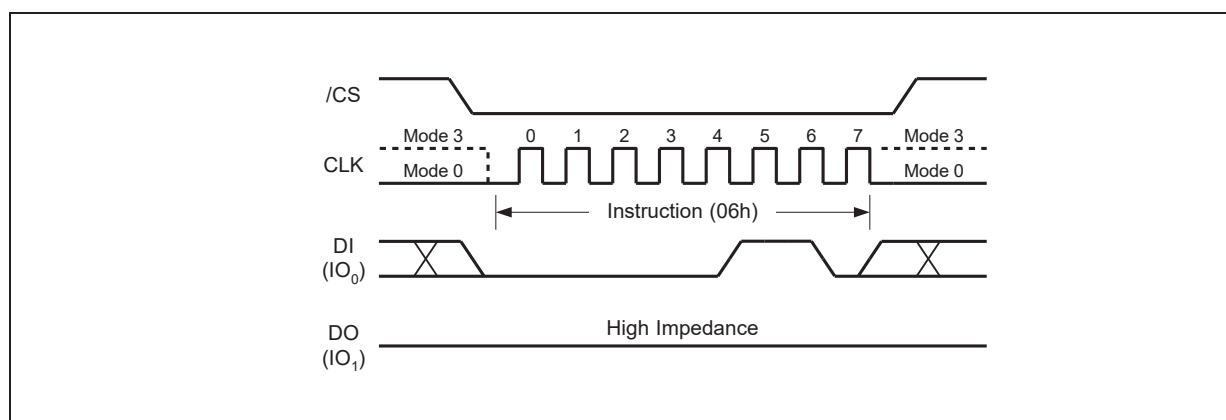

Figure 5. Write Enable Instruction for SPI Mode
Instructions vary in length from a single byte to several bytes and may be followed by address bytes, data bytes, dummy bytes (don't care), and in some cases, a combination. Instructions are completed with the rising edge of edge /CS. Clock relative timing diagrams for each instruction are included in Figures 5 through 57. All read instructions can be completed after any clocked bit. However, all instructions that Write, Program or Erase must complete on a byte boundary (/CS driven high after a full 8-bits have been clocked) otherwise the instruction will be ignored. This feature further protects the device from inadvertent writes. Additionally, while the memory is being programmed or erased, or when the Status Register is being written, all instructions except for Read Status Register will be ignored until the program or erase cycle has completed.
The Write Enable instruction (Figure 5) sets the Write Enable Latch (WEL) bit in the Status Register to a 1. The WEL bit must be set prior to every Page Program, Quad Page Program, Sector Erase, Block Erase, Chip Erase, Write Status Register and Erase/Program Security Registers instruction. The Write Enable instruction is entered by driving /CS low, shifting the instruction code “06h” into the Data Input (DI) pin on the rising edge of CLK, and then driving /CS high.